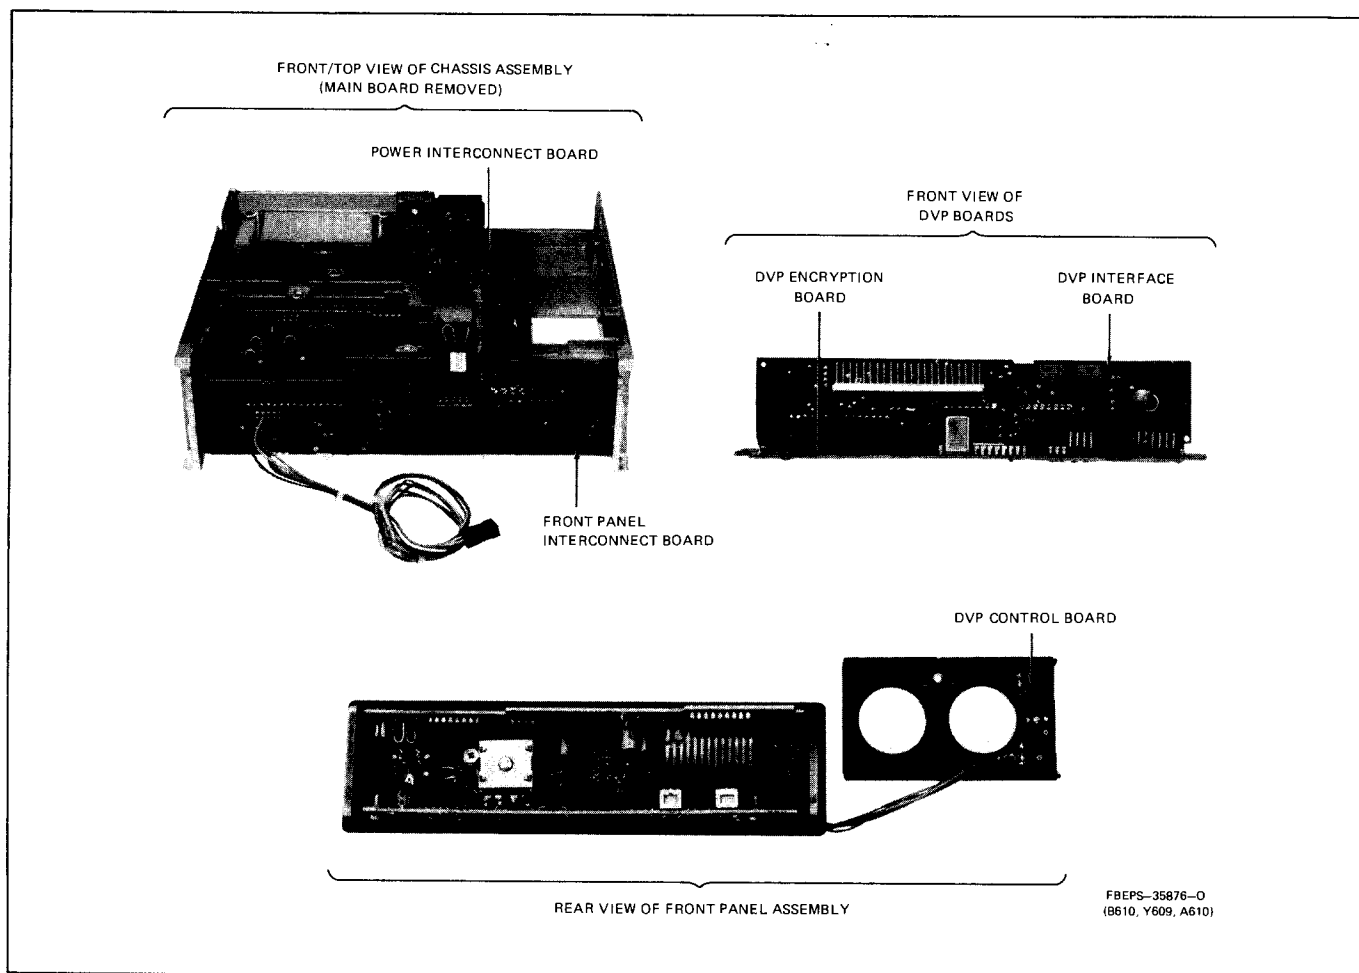

Figure 3. Chassis, DVP Circuitry, and Front Panel Assemblies
3.1.3 Access to additional assemblies is made possible by removal of the front panel assembly, and the main board. Refer to Figure 3. The assemblies shown in Figure 3 are listed below.
3.7 FRONT PANEL INTERCONNECT BOARD (Refer to Figure 3)
3.8 DISPLAY BOARD (Refer to Figure 3)
(Refer to Figure 3)